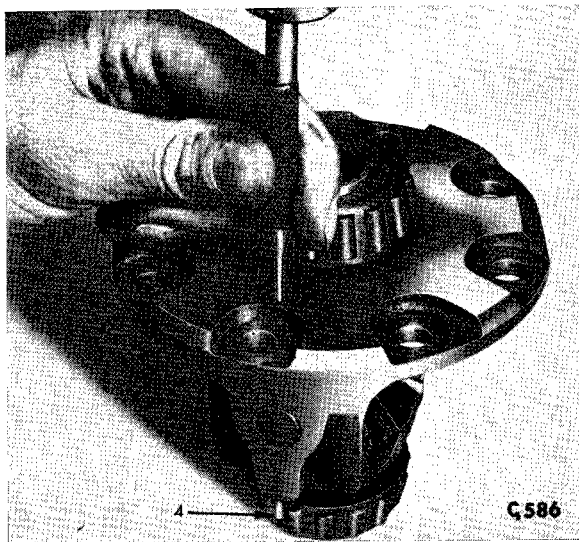

Fig. 35. Driving out cross-shaft locking pin
Drive out the cross-shaft locking pin (4) (Fig. 35) and remove the cross-shaft (69), differential gears (5), (6) and thrust washers (3), (7).